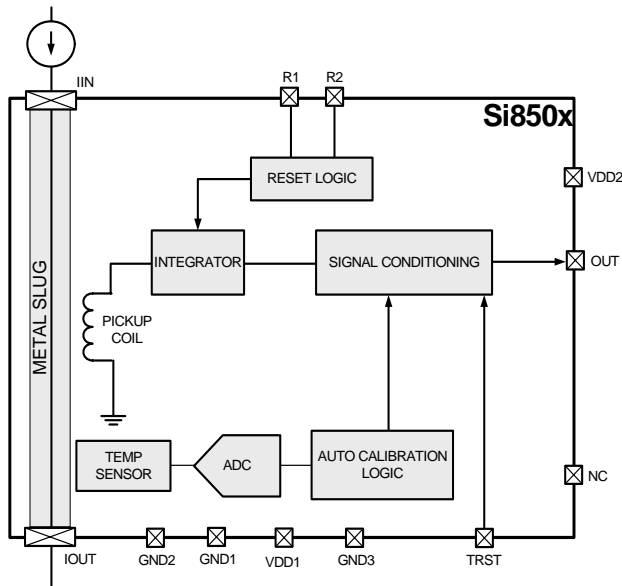
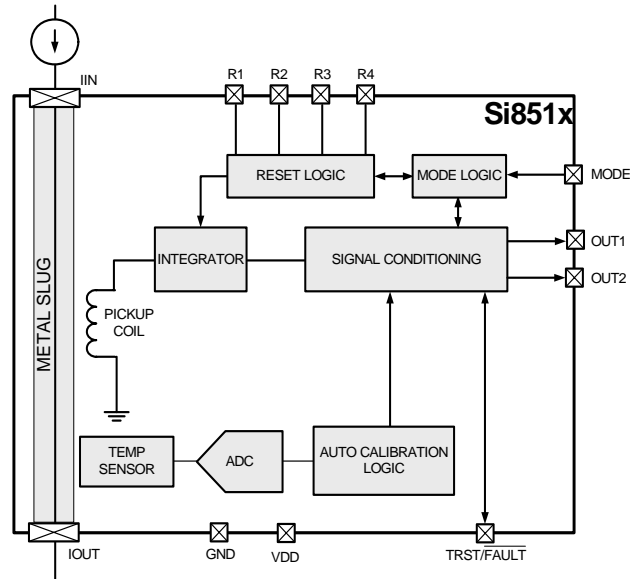

Figure 1. Si850x (Single Output) Block Diagram
Figure 2. Si851x (Ping Pong Output) Block Diagram
The Si85xx AC Current Sensor family of products mimic the functionality of a traditional current transformer (CT) circuit with burden resistor, diode and output filter, but offers enhanced performance and added capabilities. These devices use inductive current sensing and on-board signal conditioning electronics to generate a 2 V full-scale output signal proportional to the ac current flowing from the IIN to the IOOUT terminals. As shown in Figure 1 and Figure 2, current flowing through the metal package slug induces a signal in the pickup coil on-board the Si85xx die. This signal is applied to the input of an integrator that re-constructs the ac current flowing from IIN to IOOUT. On-board circuitry provides cycle-by-cycle integrator reset, and temperature and offset voltage compensation to achieve measurement accuracy to within $\pm 5\%$.